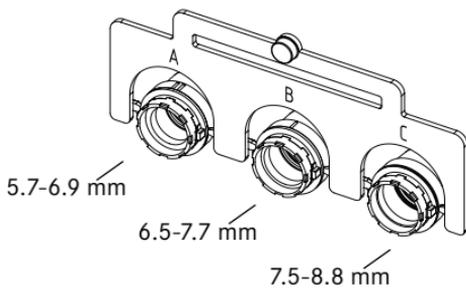

Figure XI-12
1. Select a suitable seal from the seal comb (Figure XI-12).